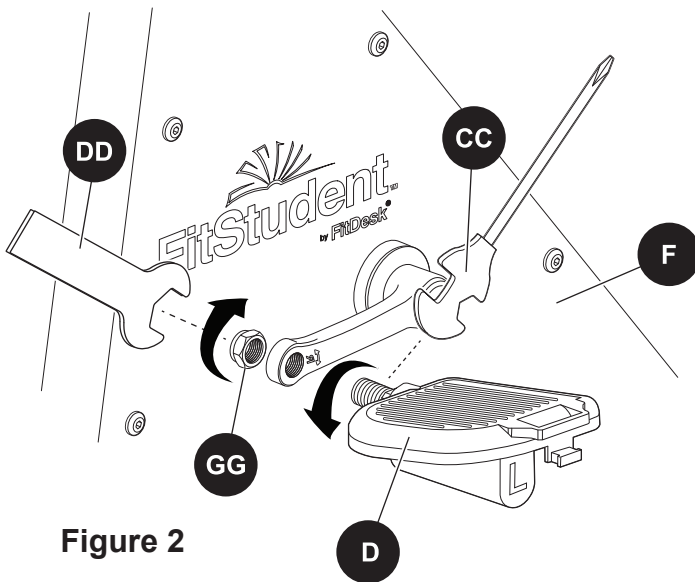

Figure 2
Step 2: Remove the nut from the Left “L” Pedal (D) and set aside for reinstallation. Using the Multi-functional Wrench (CC) (supplied), install the “L” Pedal (reverse threading required) onto the crank arm. Using the 19mm wrench (DD) (supplied), reinstall the nut and tighten (Left pedal is reverse thread). **Figure 2**